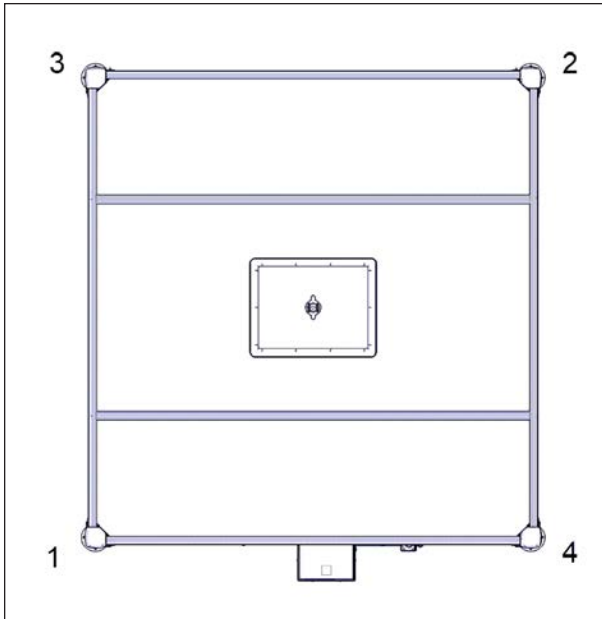

FIGURE 62: INSTALLATION PATTERN FOR THE OUTER CORNER BRACKETS (4)
25. Next steps show how to install the outer corner brackets (4). Figure 62 shows the installation pattern (four brackets, four corners). Install the first outer corner bracket on corner number 1 and then keep following the pattern for the remaining brackets.